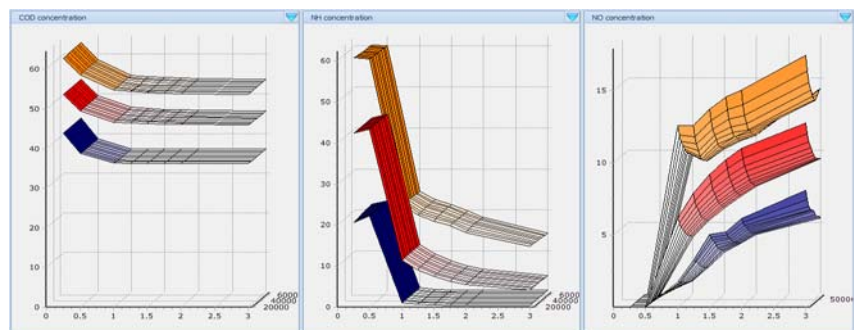

Figure 11.3 Results of the Scenario Analysis experiment
- The output of the SA experiment is shown in Figure 11.3 and Figure 11.4.